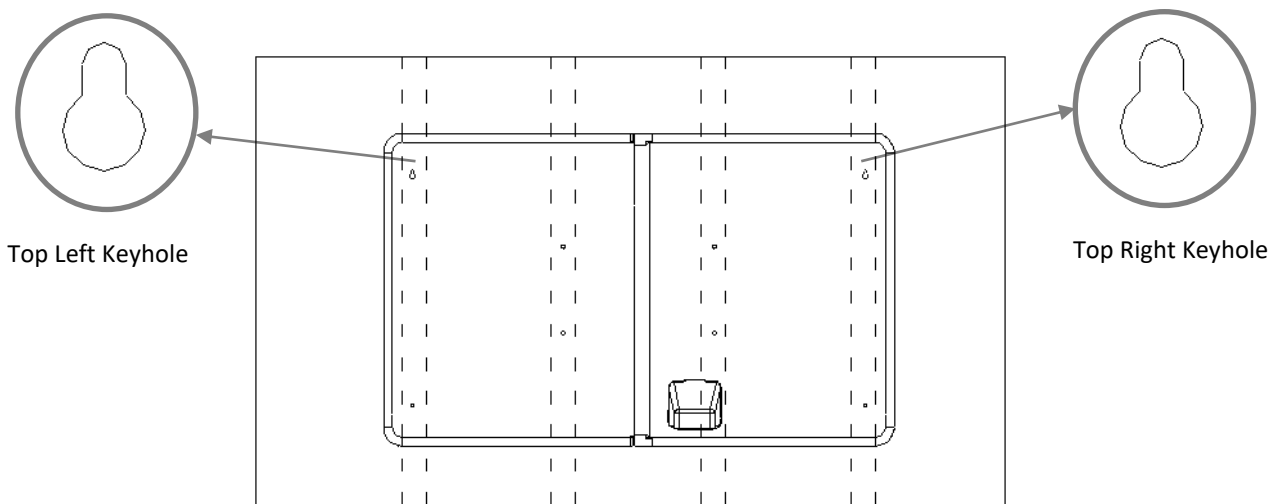

Figure 10
2. Determine the height location for the top of the TV mounting display. Mark this height on the center of the mounting stud positioned furthest to the right. Drill a hole into the stud at this location using a 1/8" drill bit 1.5 inches deep. Screw one of the S8 screws into this location, leaving the head about 1/8" away from the wall. Note: if the TV display is smaller than the 55" Storm Shell (for example, a 49" display), you may need to adjust the location of this mounting screw. This mounting screw will be placed in the top right keyhole of the Storm Shell Back – see Figure 10 below.
- Lift the Storm Shell Back to the wall and position the S8 screw head (Step 2) into the top right keyhole (Figure 10). Place a bubble level on top of the Storm Shell Back and rotate until the Storm Shell Back is Level. Place a mark on the wall through the top left keyhole. Make sure to mark the top left key hole at the center of the top (where the screw will rest). Remove the Storm Shell Back from the wall and check to ensure that the mark for the top left keyhole is centered on a stud. Repeat the procedure in Step 2 to drill and screw an S8 screw for the top left keyhole. Mount the Storm Shell Back on the wall using the mounted screws and the top left and right keyholes. Check that the Storm Shell Back is level using the bubble level.